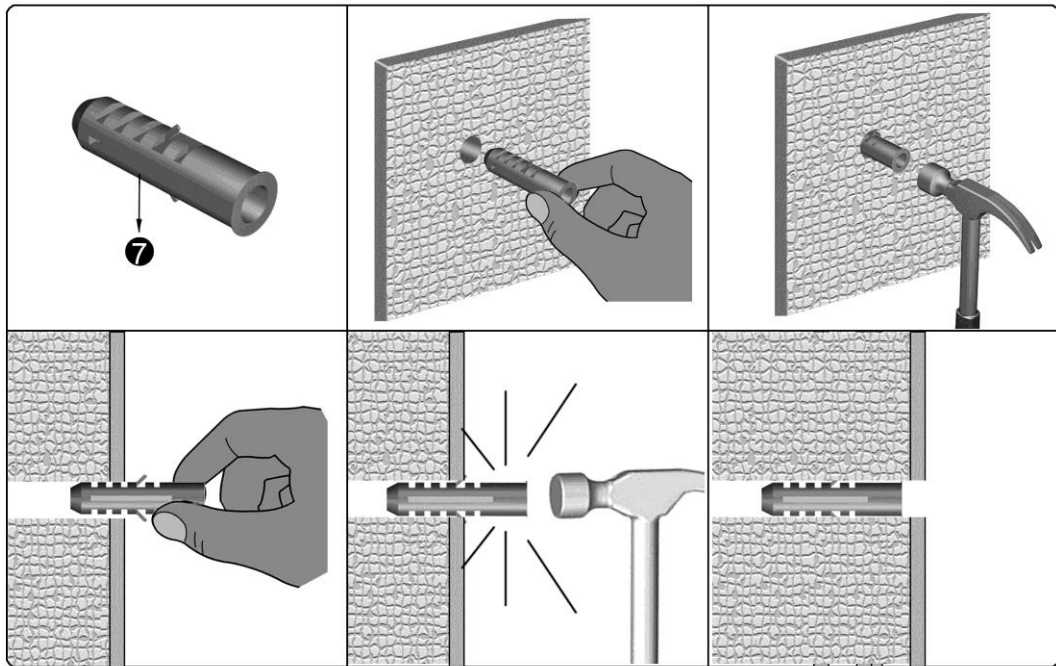

Figure 1-8
3. Insert the Anchor (7) into pilot hole and gently tap with a hammer until the Anchor (7) is fully engaged into the wall (See Figure 1-8).